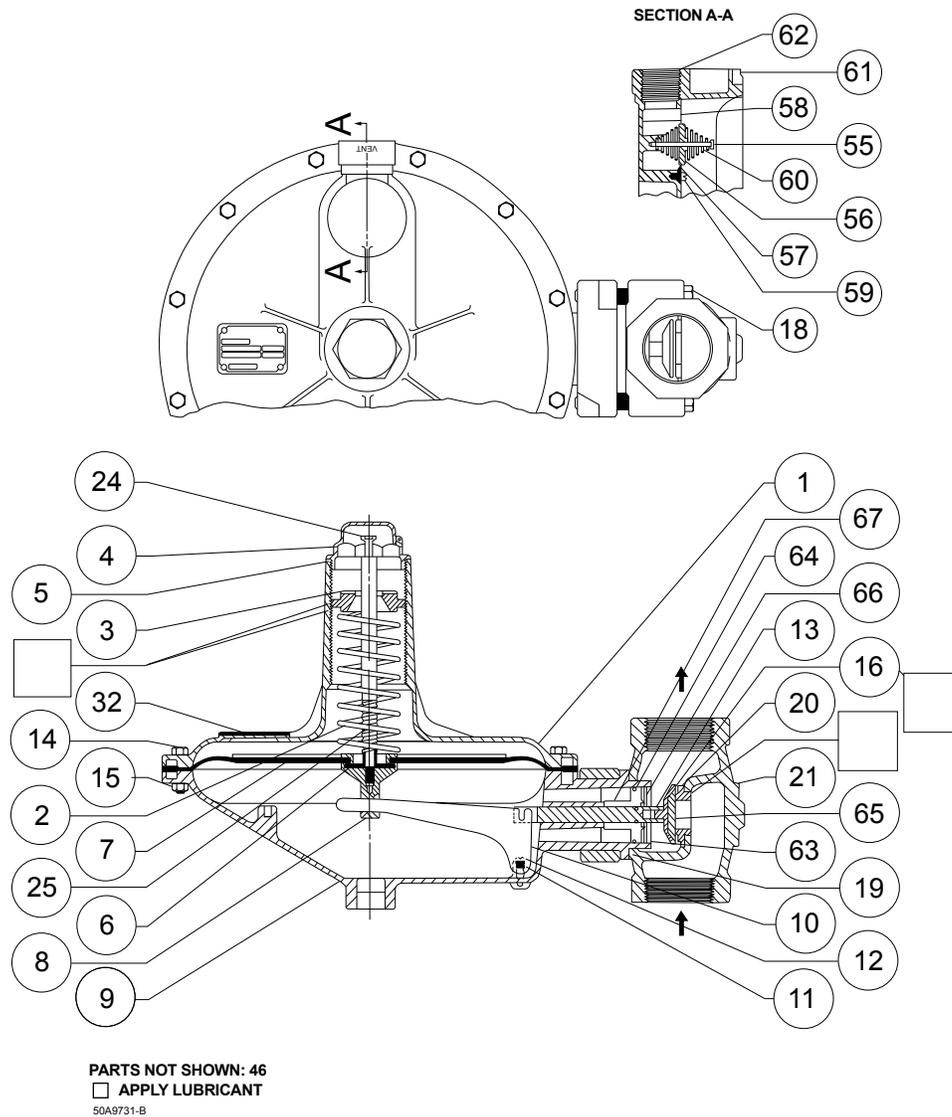

Figure 3. Type S202P Regulator Assembly
Before installing the regulator, check for damage which might have occurred in shipment. Also check for dirt or foreign matter which may have accumulated in the regulator body or in the pipeline. Apply pipe compound to the external threads of the pipeline and install the regulator so that flow is in the direction of the arrow cast on the body. The diaphragm casing assembly can be rotated to any position relative to the body. Loosen the two cap screws (key 18, Figure 3) in order to rotate the diaphragm casing assembly.
1. Remove the closing cap (key 4, Figure 3).
2. To increase the outlet setting, turn the adjusting screw (key 3) clockwise. To decrease the outlet setting, turn the adjusting screw counterclockwise.
1. Remove the closing cap (key 4, Figure 3), and turn the adjusting screw (key 3) counterclockwise to ease spring compression.
2. Remove the adjusting screw (key 3) and the spring (key 2).
3. Remove hex nuts (key 15) and cap screws (key 14). Separate the upper spring case (key 1) from the lower casing assembly (key 9).
4. Slide the diaphragm and diaphragm head assembly (key 7) away from the body (key 21) to unhook the pusher post (key 8) from the lever (key 10). Lift off the diaphragm and diaphragm head assembly.
5. Unscrew the reset stem (key 24) from the pusher post (The relief valve spring (key 25) will also have to be removed from S202P Series regulators).
1. Remove the cap screws (key 18, Figure 3) which hold the lower spring casing (key 9) to the body (key 21). Separate the lower spring casing from the body.
2. Check the body O-ring (key 19) for wear.
3. Examine the valve disk (key 16) for nicks, cuts, and other damage. Unscrew the disk holder assembly from the valve stem assembly (key 13) and replace it with a new part if necessary.
4. If the seating edge of the orifice (key 20) is nicked or rough, remove the orifice from the body. Change to a new part when reassembling the regulator. (If the orifice is replaced with a different size, change the nameplate to state the new size and maximum inlet pressure).
5. To inspect or replace the stem adaptor O-ring (key 64), remove the retaining ring (key 63) and slide the stem adaptor (key 67) off the stem.
6. The O-ring stem seal (key 65, Types S201P, S202P, and some S201PK units) should be examined and replaced if necessary.